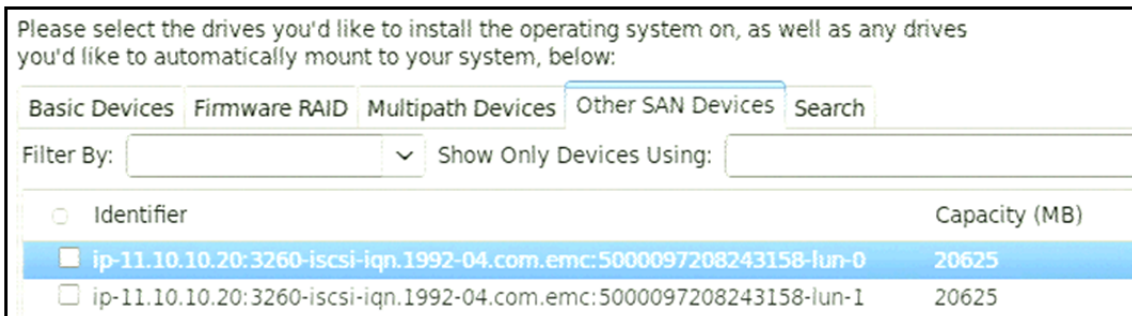

Figure 35 Selecting drives to install the OS
7. Select a booting LUN, as shown in Figure 35.